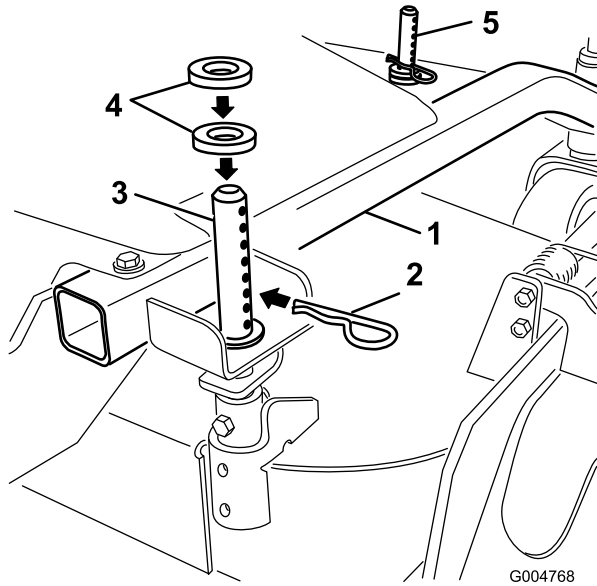

Figure 14
1. Select hole in height-of-cut post and number of spacers corresponding to the height-of-cut desired (Figure 14).
2. Using the lift handle, raise side of deck and remove hairpin cotter (Figure 14).
3. Add or remove spacers if needed and then align holes and insert hairpin cotter (Figure 14).